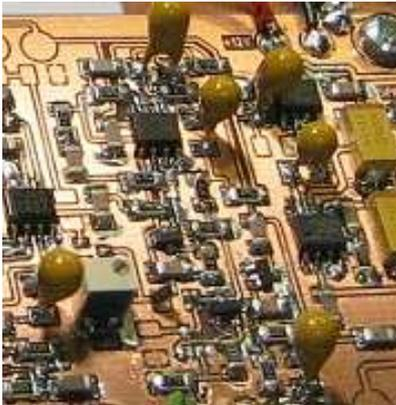

Fig. 11 – Using lead-type tantalum capacitors
- Other components, too, can be replaced with available parts. The pads of the PCBs have been dimensioned to allow eg. for lead-type tantalum or electrolytic capacitors to be used instead of SMD tantalum capacitors (Figure 11).